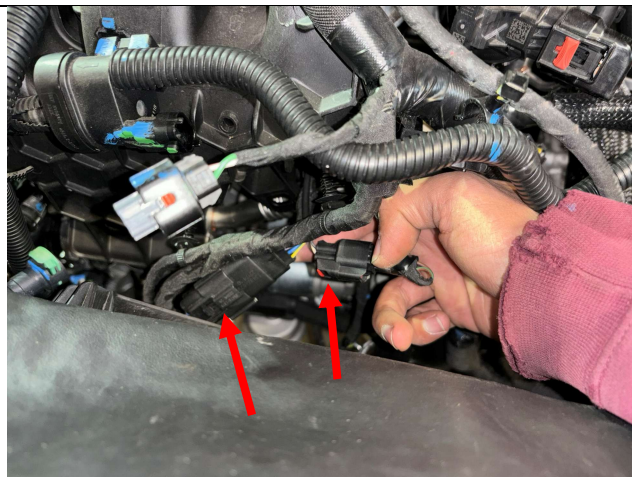

Figure 17
17. Disconnect the two electrical connectors as shown in Figure 17.